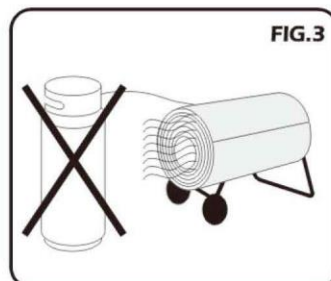

FIG.3
### - PREPARING FOR OPERATION (Fig.3):
- Check the heater thoroughly for damage. Do not use a damaged heater. Be sure the heating area is adequately ventilated, free of moisture and dust, far away from any combustible material. Always put the gas cylinder behind the heater in a stable position. Never put the gas cylinder in front of the heater (Fig.3.).